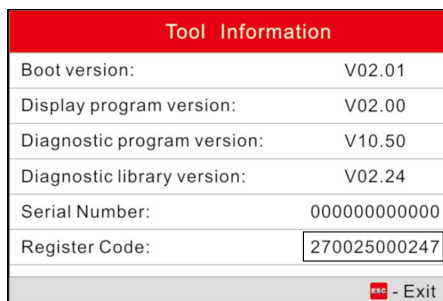

Figure 6
8. The Register Code shown in Figure 6 is the Register Code needed in step 4.